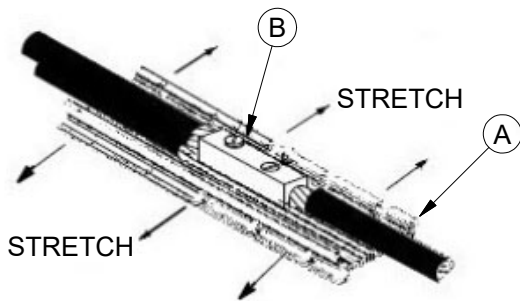

Figure 2
2. Check the insert depth of the inline set screw connector. Remove the length of cable insulation on each cable that corresponds to the insert depth of the connector. See Figure 2. Remove surface oxides from the exposed conductors with a wire brush. Coat the cleaned conductors with oxide inhibitor (Stock #31 59 058).